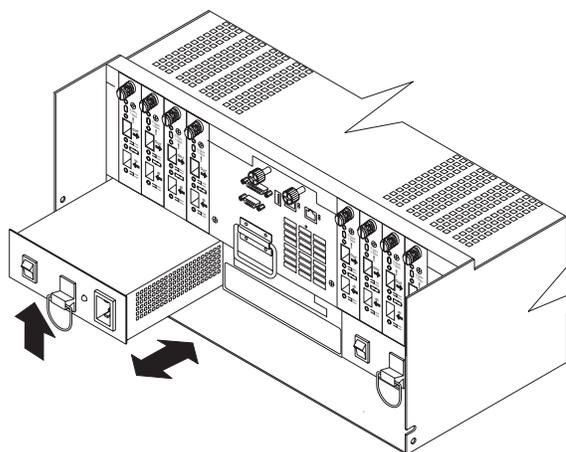

Figure 45. Removing and installing a power supply CRU
3. Using Figure 45 on page 58 as a guide, remove the failed power supply. Lift up and pull out on the pull handle to release the power supply; then, slide the unit out.
5. Install the new power supply, as shown in Figure 45. Using the pull handle, push the power supply into the slot until it locks into place.